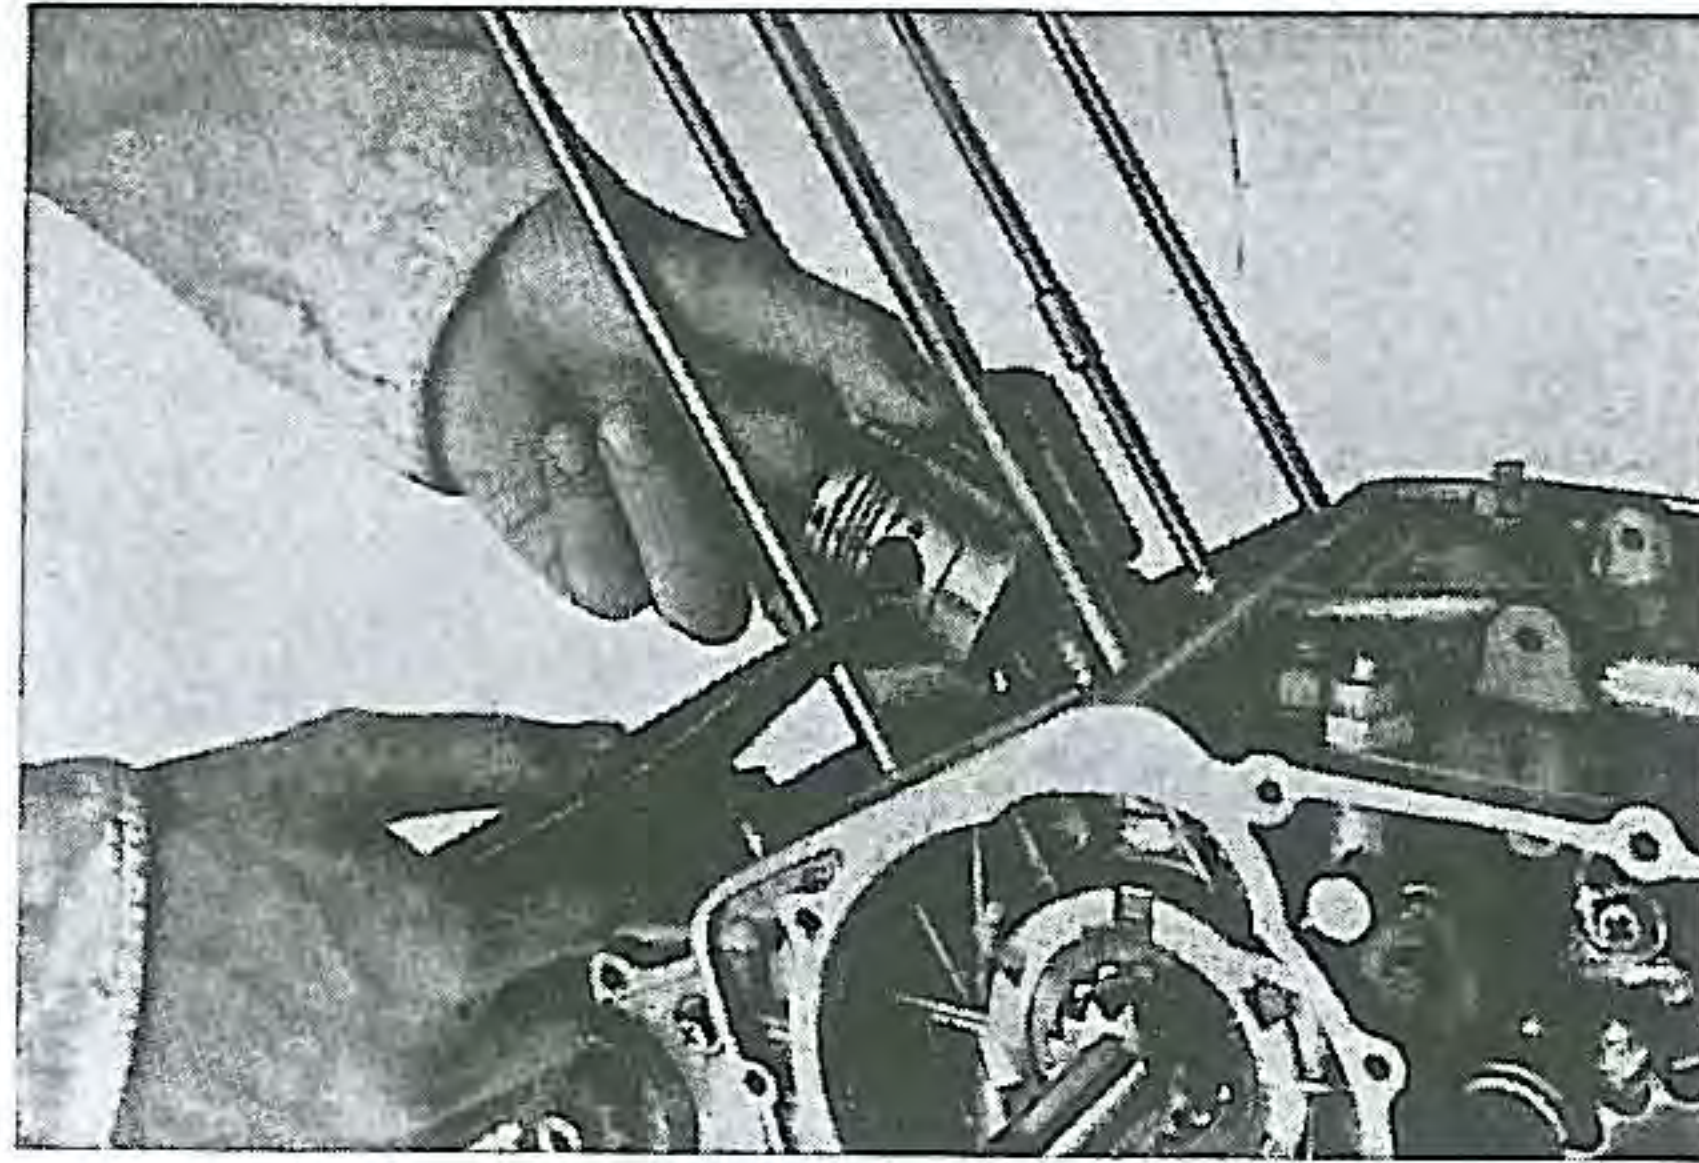

Fig. 52. Removing circlip
- (2) Remove both outside piston pin clips with sharp thin nose pliers and draw out both piston pins, (Fig. 52) which enable removal of the pistons from the rods.
- (3) Remove the piston rings from piston-ring grooves: expanding with fingers or a special tool if available.